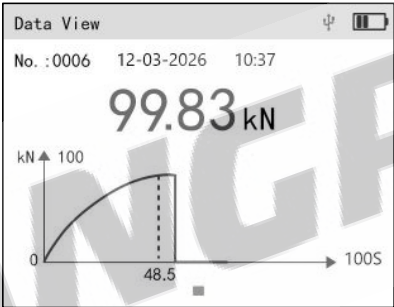

Figure 3.5
Move to the desired data by (▲) (▼), press (OK) to view the saved data in detail as shown in Figure 3.5, and press (BACK) to return to the previous interface.